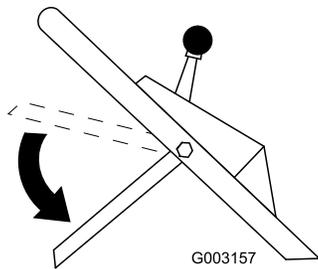

Figure 15
8. Move the blade control bar down to its lowest position (Figure 15).